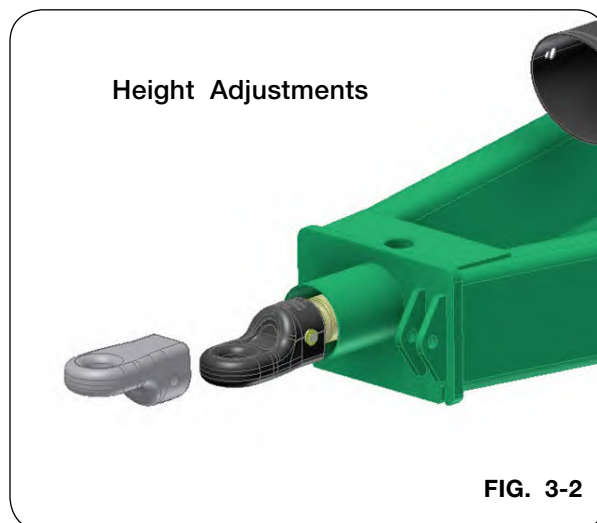

FIG. 3-2
- Place wear shoe (281898-CAT 4; 281899-CAT 5) between tractor hitch and grain cart hitch. (Figure 3-2)
**NOTE:** Hitch tang can be flipped providing a drawbar connection height difference of 2 7/8" (Figure 3-2 & 3-3). Position the hitch tang to help assure a level cart when loaded, or the rear of the hopper slightly higher than the front, to maintain rear slope cleanout. Whenever the hitch tang is flipped, the driveline clearances need to be reviewed.